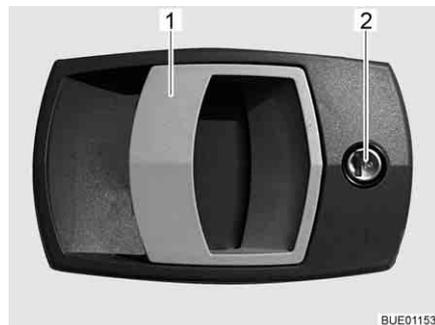

Fig. 29 Door lock of conversion door, outside
- Insert the key into locking cylinder (Fig. 29,2) and turn until the door lock is unlatched.
- Pull on the handle (Fig. 29,1). The door is open.
- Insert the key into locking cylinder (Fig. 29,2) and turn until the door lock is engaged.